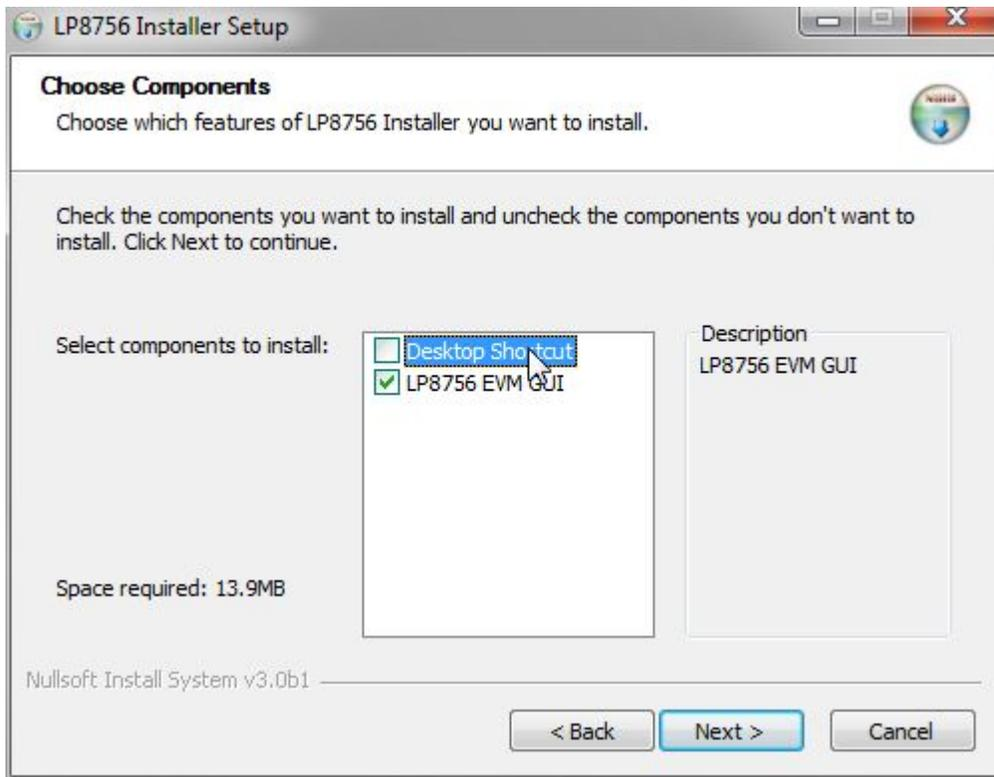

Figure 3. Features of LP8756 Installation
3. Installer prompts to choose which features of LP8756x Installer you want to install (see Figure 3).